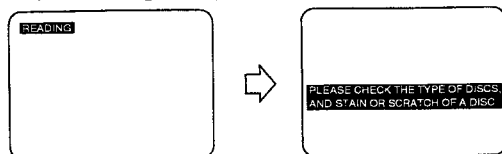

Fig. 3
4. Turn off the power. (The tray will close automatically.) Then, turn on again. Updating will begin as shown in Fig. 3.